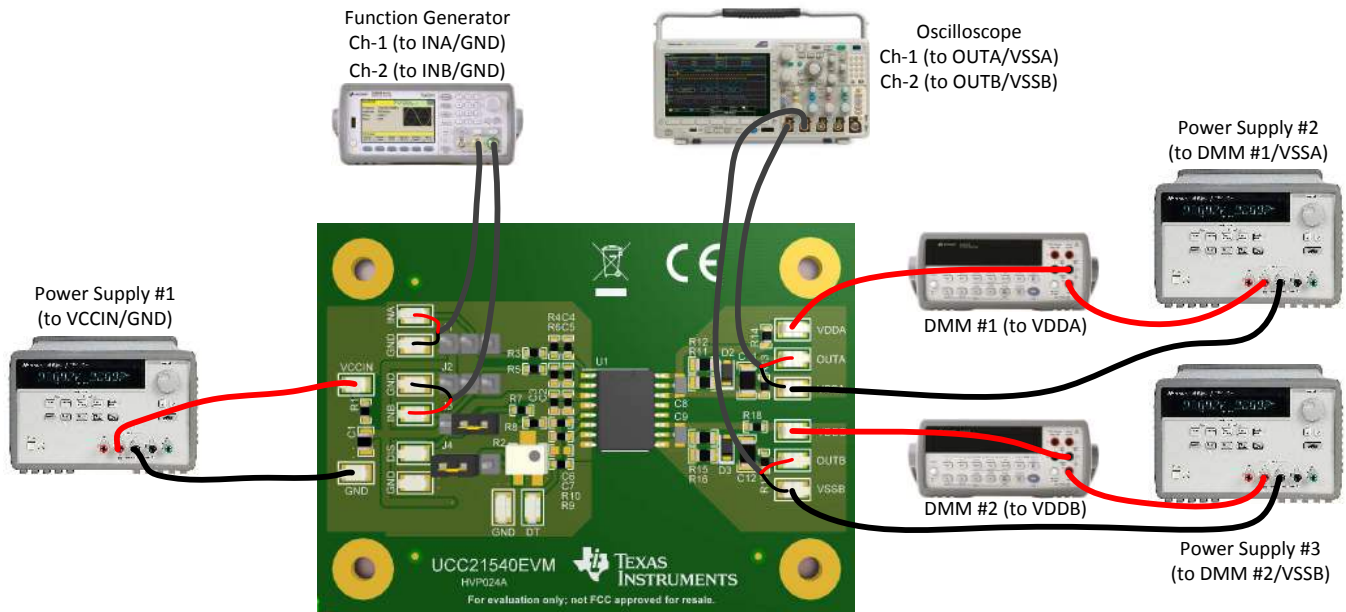

Figure 2. Bench Setup Diagram and Configuration
Follow this connection procedure, Figure 2 can be used as a reference.
2. Connect the function generator channel 1 to TP3 (INA) and TP4 (GND), see Figure 2.
3. Connect the function generator channel 2 to TP5 (INB) and TP6 (GND), see Figure 2.